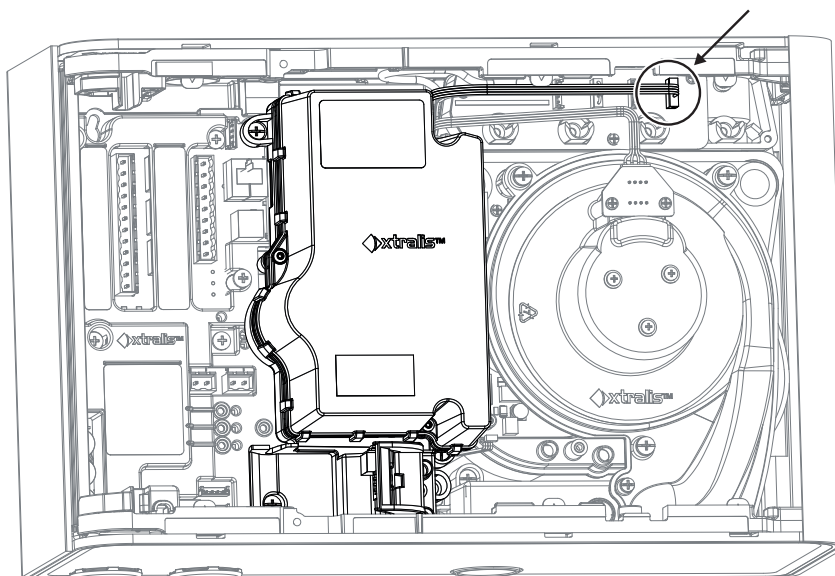

Figure 7-14: Disconnect Chamber Loom
4. Disconnect the chamber loom from the connector labeled J3 (Figure 7-14).
5. Reconnect the loom to J3 (Figure 7-14).